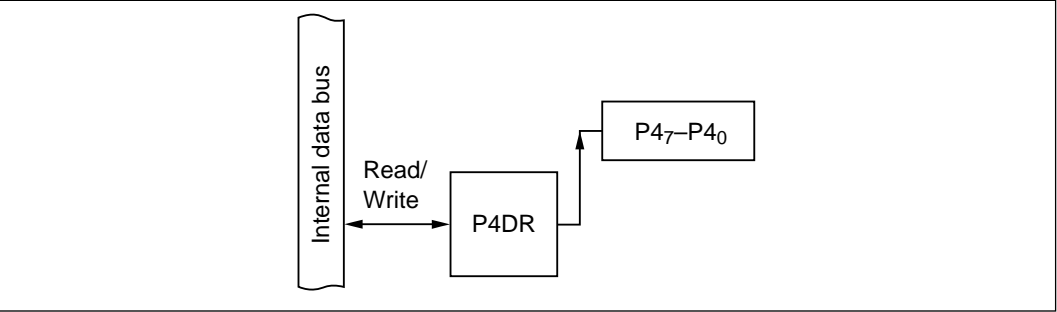

Figure 10-23 Output Port (Modes 1 to 7)
(2) Output Port (Modes 1 to 7): Figure 10-23 shows a block diagram illustrating the general-purpose output function. Table 10-17 indicates register read/write data. The value written in the port 4 data register (P4DR) is output at the pin. When read, P4DR returns the value written in P4DR.